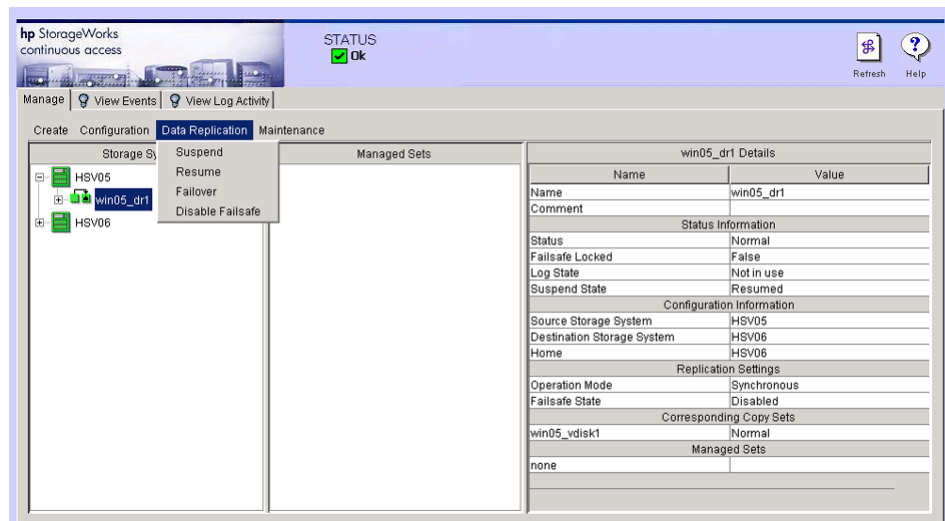

Figure 43: Data Replication menu on the Continuous Access user interface
After the Continuous Access user interface is installed and initialized, active storage system objects are displayed in the left pane. Selecting an object and using the Data Replication menu (Figure 43) allows you to perform the following data replication functions:
2. Choose **Data Replication > Suspend** from the Continuous Access user interface main window menu bar (see Figure 43).
2. Choose **Data Replication > Resume** from the Continuous Access user interface main window menu bar (see Figure 43).
2. Choose **Data Replication > Failover** from the Continuous Access user interface main window menu bar (see Figure 43).
2. Choose **Data Replication > Disable Failsafe** from the Continuous Access user interface main window menu bar (see Figure 43).